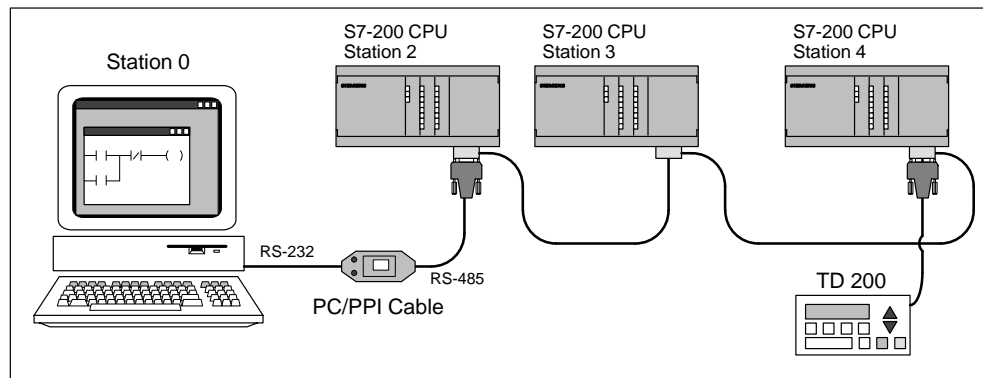
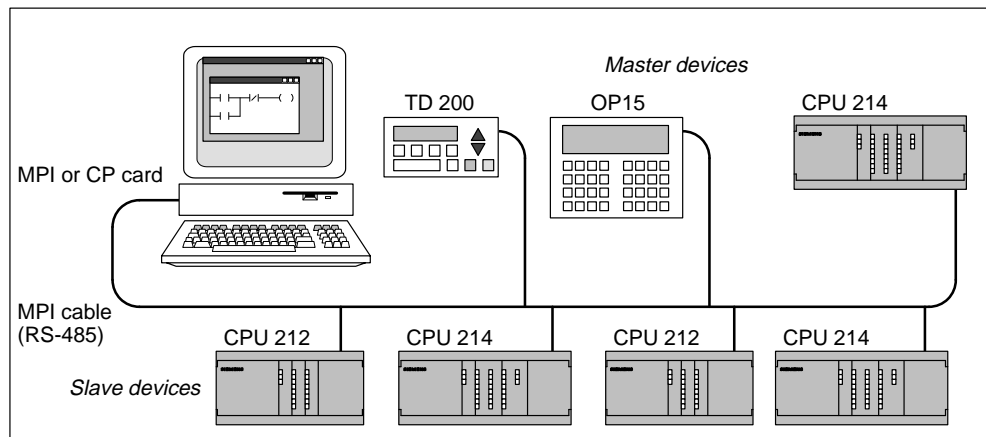

Figure 3-4 Using a PC/PPI Cable for Communicating with Several S7-200 CPU Modules
Figure 3-5 Example of an MPI or CP Card with Master and Slave Devices
- A single master device is connected to one or more slave devices and one or more master devices. See Figure 3-4 and Figure 3-5.
Figure 3-4 shows a configuration with a personal computer connected to several S7-200 CPU modules. STEP 7-Micro/WIN is designed to communicate with one S7-200 CPU at a time; however, you can access any CPU on the network. The CPU modules in Figure 3-4 could be either slave or master devices. The TD 200 is a master device. For detailed information on network communications, see Chapter 9.
You can use STEP 7-Micro/WIN with a multipoint interface (MPI) or communications processor (CP) card. Either card provides a single RS-485 port for connection to the network using an MPI cable. STEP 7-Micro/WIN 32 (the 32-bit version) supports the MPI parameter set for an MPI network; STEP 7-Micro/WIN 16 (the 16-bit version) does not. After establishing MPI communications, you can connect STEP 7-Micro/WIN on a network that contains other master devices. Each master must have a unique address. Figure 3-5 shows a sample network with master and slave devices. For detailed information on network communications, see Chapter 9. For information on the MPI card and the various CP cards that are available, see Section 9.4. Appendix G lists their order numbers.